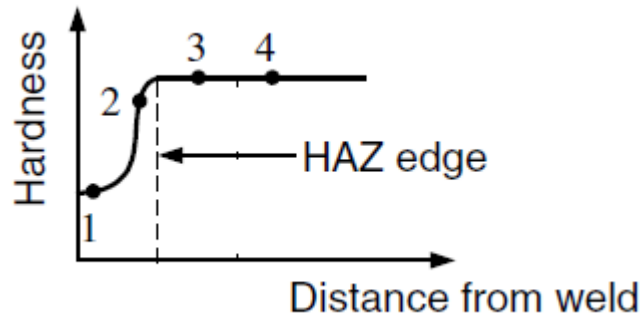

Figure 2: Hardness distribution after weld of heat treatable nickel alloy
- (c) State **TWO (2)** methods to prevent weld decay. (4 Marks)
- (c) Porosity is a common problem occurs in welding aluminum alloys. It is impossible to eliminate but able to minimize by proper control. Discuss **THREE (3)** methods to minimize the porosity. (10 Marks)
- (a) List **THREE (3)** common problems associated with welding nickel alloy. (6 Marks)
- (b) Refer to Figure 2, explain the loss of hardness for point 1 and 2 compare to base metal at point 3 and 4. (8 Marks)
- (c) Refer to Figure 2. Sketch the microstructures for point 1 to 3. (6 Marks)